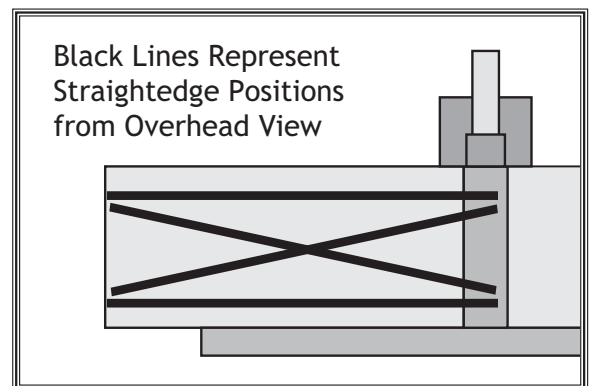

Figure 45. Straightedge positions for verifying if outfeed table is parallel with cutterhead.
5. Place the straightedge in the positions shown in **Figure 45**. In each position, the straightedge should touch the cutterhead and sit flat on the outfeed table.
3. Place the straightedge in one of the positions shown in **Figure 45**, and adjust the table (a small hammer and punch or pin-type spanner wrench may be necessary to turn the eccentric bushings) so that the straightedge touches the cutterhead while lying flat across the outfeed table. Repeat this step with each of the remaining straightedge positions as many times as necessary until the outfeed table is parallel with the cutterhead.